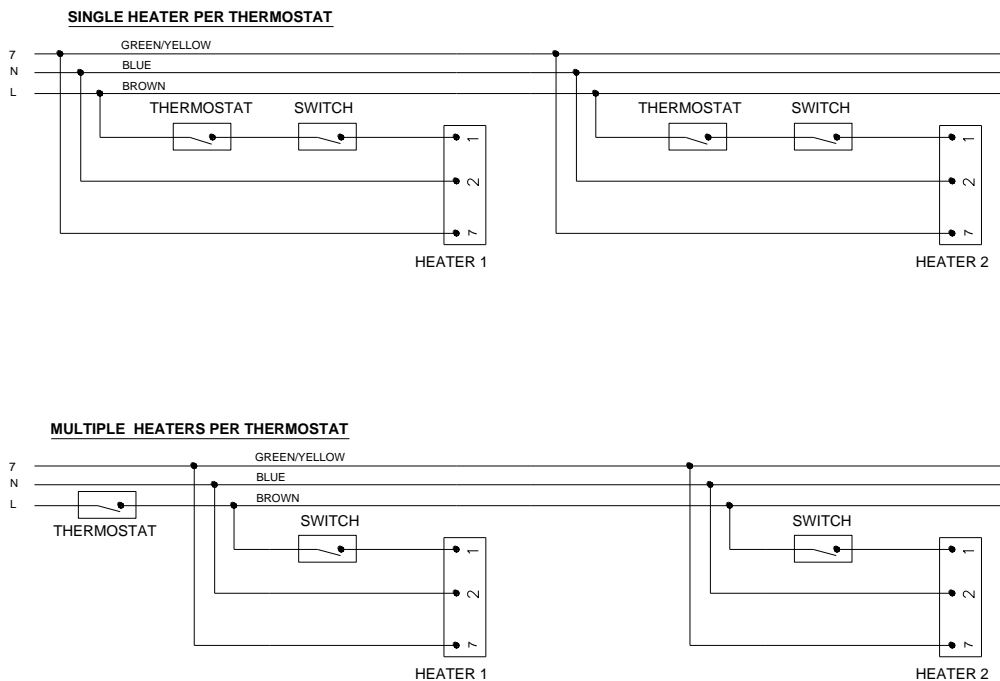

Fig.5
2. Twin core and earth PVC covered flexible supply cable (0.5mm² - to National or Local standard specification) must be used, with connections made as shown in Fig. 5.